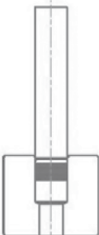

Fig. 3
- / The pin can now be pressed in until the top of the pin is flush with the top surface of the sleeve. Corresponding approximate values for stroke S, as well as the dimension X can be referred from the dimensional sheets (Fig. 3, 4 and 5).